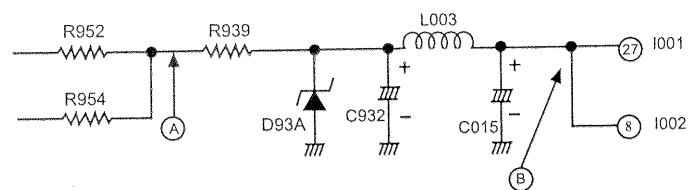

FIG. 1
- (1) Confirm +15V at point (A) (Fig. 1)
- (2) Connect JIG (S) to IN71 (9) and (10) pin as follows.
- (3) Connect frequency counter (F) as follows.
- (1) Confirm 15V at point (A) (see fig. 1.)
- (2) Confirm 12V at point (B) as shown below.